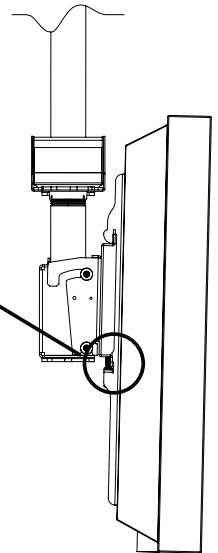

fig. 7.2
- 7** Hook adapter brackets (**P**) to adapter plate (**Q**) as shown in figure 7.1. Tighten safety/security screws using allen wrench (**R**) until safety/security screw touches bottom of wall plate as shown in detail 4. To adjust tilt of screens, loosen M10 x 15 mm penta-pin screws (**L**) of ceiling arm box (**H**) using M10 penta-pin tool (**M**) as shown in figure 7.2. Once desired tilt is acquired retighten the screws.